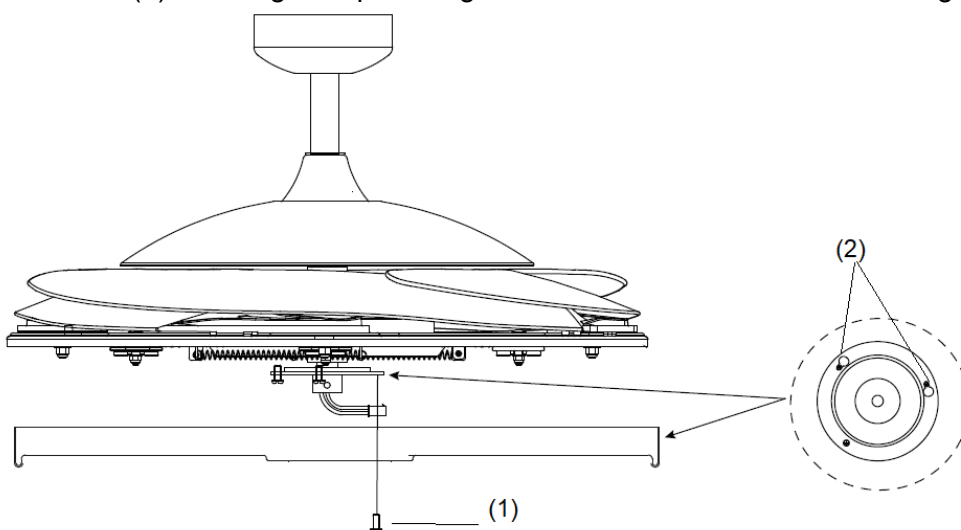

Fig. 7
**LIGHT KIT INSTALLATION (Fig.7 & 8)**
1. Loosen the screw (1) from the fan bracket. Align the two slot screws with the keyhole slots (2) of the light kit plate. (Fig. 7)
2. Turn the light kit plate counterclockwise until the slot screws are firmly at the end of the slots (2).
3. Secure screw (1) to the light kit plate. Tighten all three screws. Do not over-tighten.